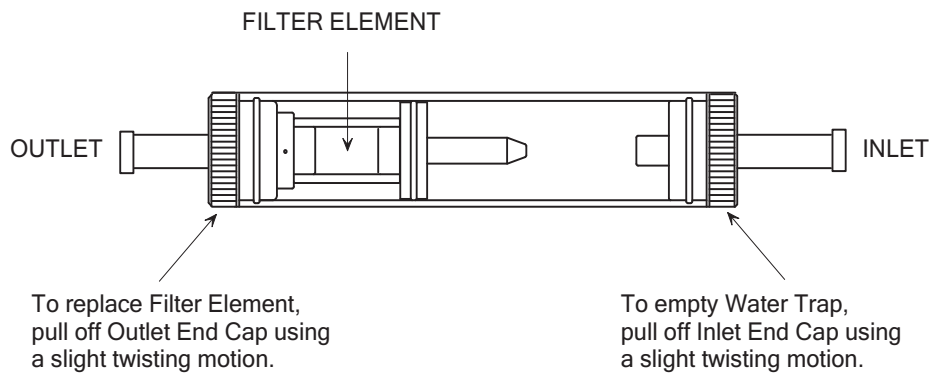

Figure 4. Water Trap / Filter Assembly Used on Model 100/110/120
1. Disassemble the trap (see Figure 4 or 5).